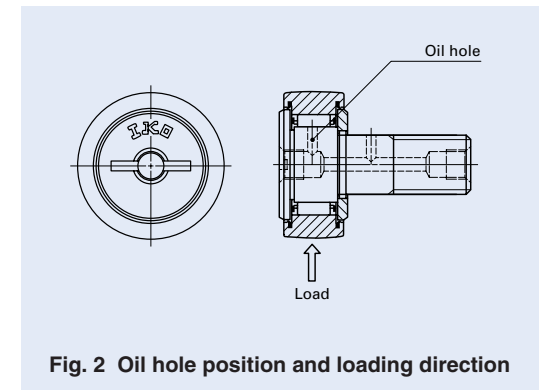

Fig. 2 Oil hole position and loading direction
- 2 The IKO mark on the flange head of the stud indicates the position of the oil hole on the raceway. Avoid locating the oil hole within the loading zone. This may lead to a short bearing life. (See Fig. 2.) The hole located in the middle part of the stud perpendicular to the stud center axis is used for greasing or locking.